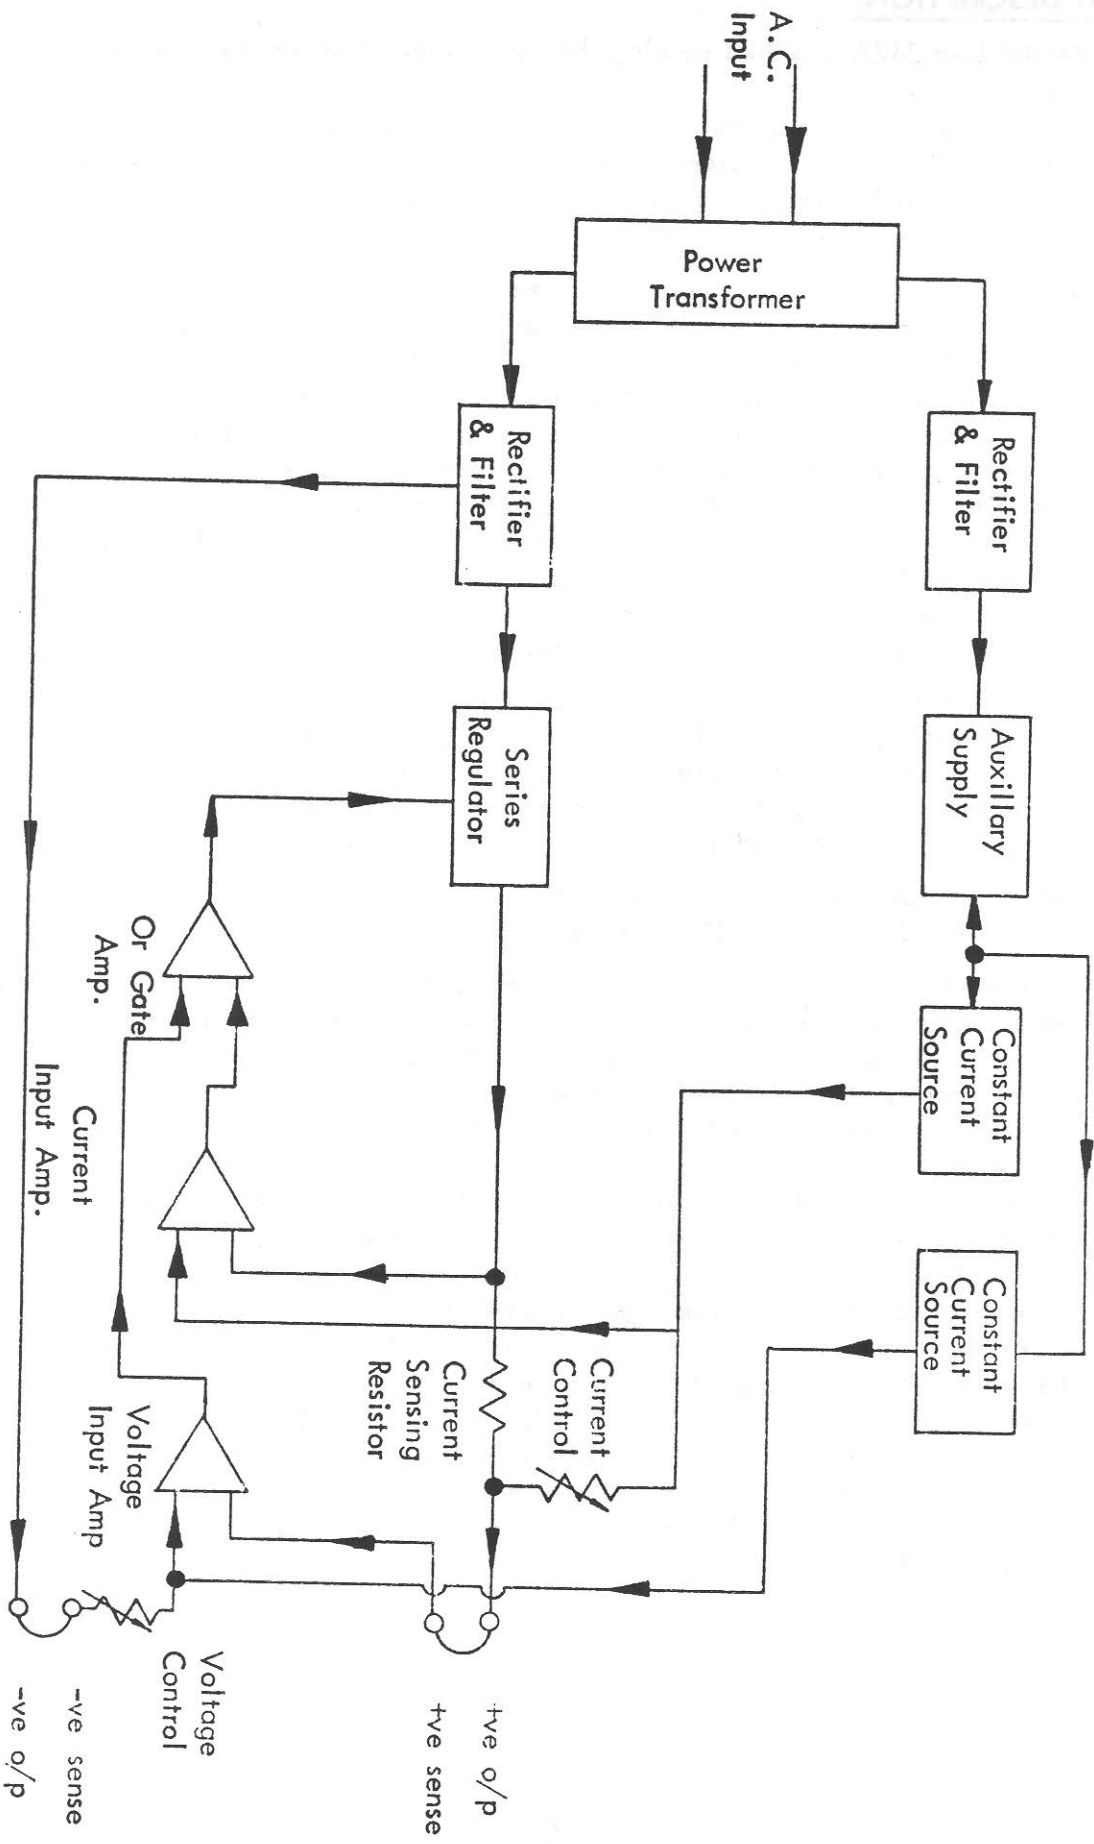

Figure 1 BLOCK DIAGRAM.
- 5.2 The power supply, (refer figure 1), consists of two rectifier-filter circuits; one supplying the auxiliary supply, the other supplying the series regulator and, via the current sensing resistor, the output. The voltage developed across the current sensing resistor is the input to the constant current circuit. The output voltage of the supply is sampled by the voltage input amplifier via the sensing leads, compared against the voltage across the voltage control and any changes amplified and fed to the OR gate. The constant current circuit also feeds into the OR gate. Any changes required are amplified and applied to the series regulator in the correct phase and amplitude to correct the output. The auxiliary supply is used throughout the circuit to provide DC power to the amplifier and a stable voltage where comparison is necessary.